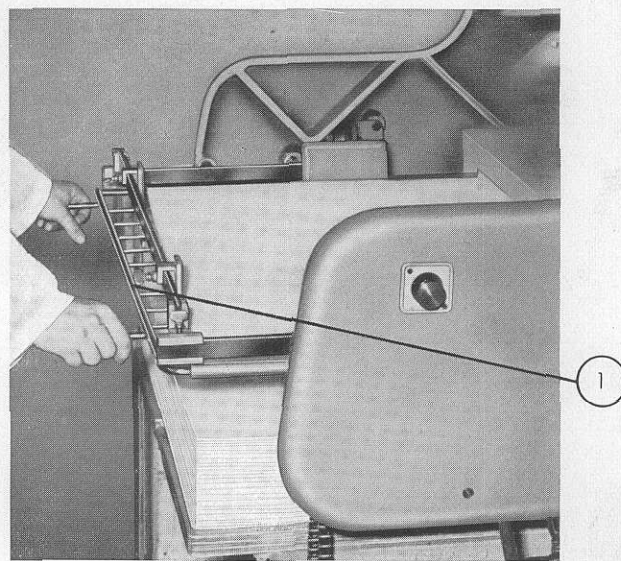

Fig. 16
- **continuous delivery rack 1** (fig. 16) to receive printed sheets while delivery board is being emptied;